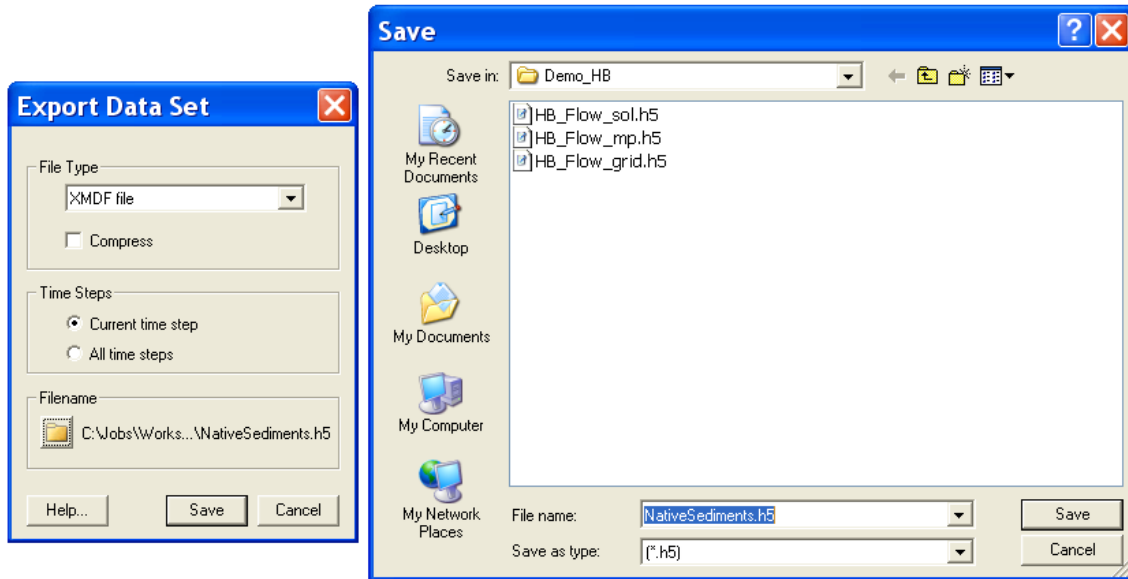

Figure 10. Generate the native sediment file.
- (g) Highlight the datasets, d35, d50, and d90, right-click, and select *Export* (Figure 10).